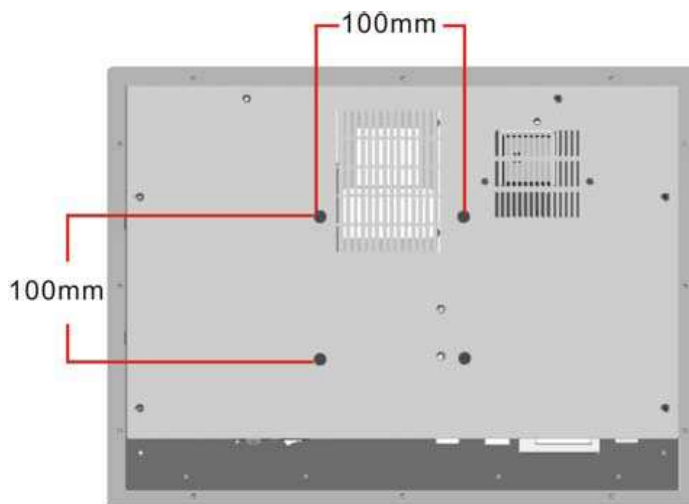

Figure 3-17: Arm Mount Retention Screw Holes
Step 3: Align the retention screw holes on the mounting arm interface with those in the IVC-19PC-P flat panel PC. The IVC-19PC-P flat panel PC arm mount retention screw holes are shown in **Figure 3-17**.